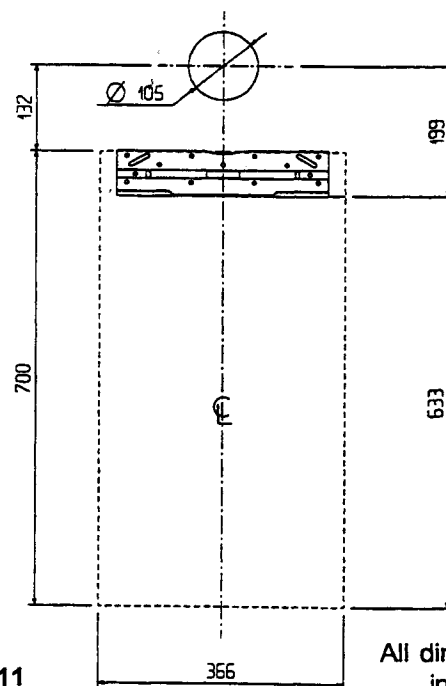
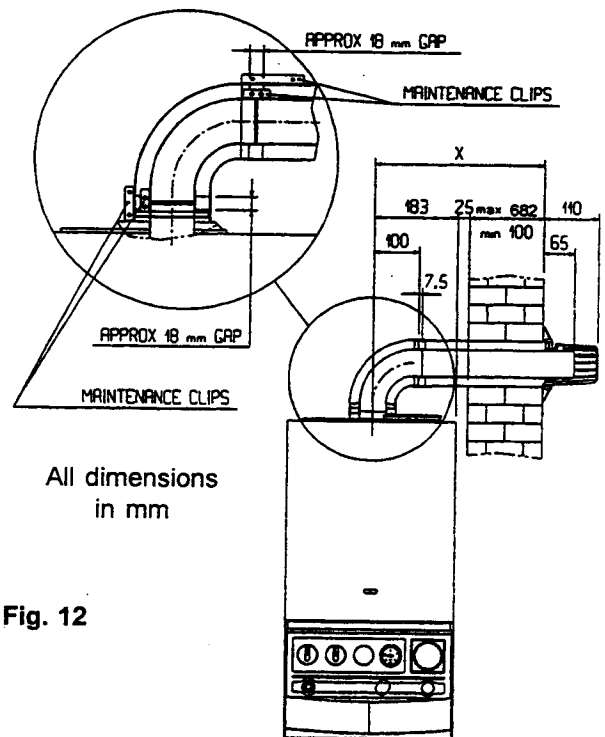

Fig. 11
Fig. 12
5.4 MOUNTING THE APPLIANCE (Ref. Fig.11)
- 5.4.1 Place the template on a smooth, vertical, non-combustible surface and use it to locate the upper bracket, bottom fixing and flue pipe hole (concentric horizontal only). Alternatively, position bracket and holes to dimensions in Fig. 11.
Refer to fig. 11 and figs. 12 - 16 for relevant dimensions for locating the hole. Where it is remote from the boiler take special care to ensure the hole is at the correct level so that the finished flue is horizontal.
- 5.5.1 Refer to figures 12 - 16
- 5.5.3 Hang the boiler on the bracket. Adjust the boiler sideways to its correct position. Locate the small maintenance clip on to the flue elbow (figs. 12 & 13) and assemble onto the flue outlet on the top of the boiler. Twist the flue bend to the outlet direction required, and tighten the maintenance clip to secure the flue bend in place. Carefully level across to check that the hole through the wall is 1° lower than the flue bend.
- 5.5.4 Measure carefully from the actual face of the outside wall to the centre of the flue bend. (Dimension X on Figs 12 & 14)
5.5.15 There must now be a gap of approximately 18mm from the elbow to the end of the outer tube (see inset on fig. 12).
5.5.17 Referring to Fig. 12 fit the large maintenance clips into position and secure the clip screws.
- 5.5.28 Referring to Fig. 12 fit the large maintenance clip into position and tighten clip screws.
- 5.5.38 Referring to Fig. 12 fit the large maintenance clip into position and secure clip screws.